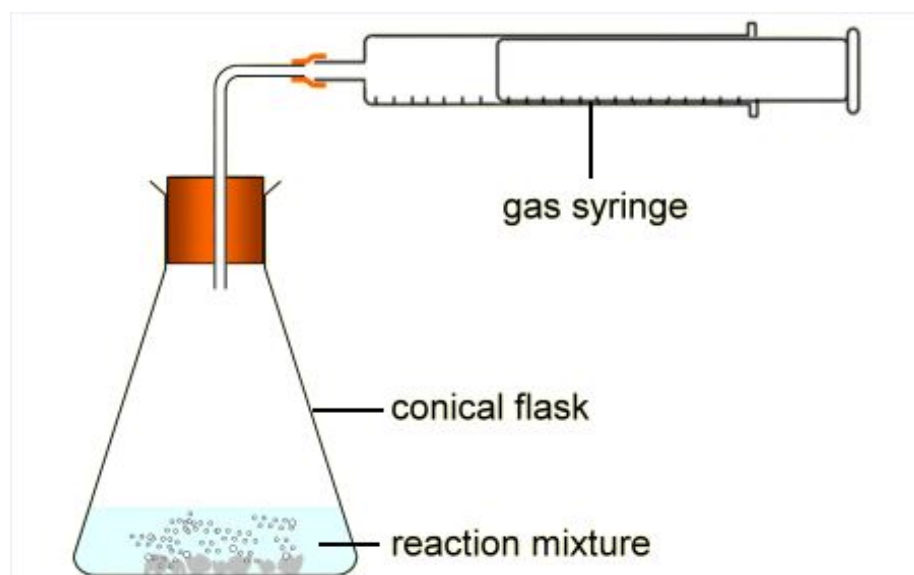

Figure 2.10: Gas Syringe Equipment
- Figure 2.10 - Gas Syringe Experiment - [http://www.bbc.co.uk/schools/gcsebitesize/science/add\\_ocr\\_gateway/chemical\\_economics/reaction1rev1.shtml](http://www.bbc.co.uk/schools/gcsebitesize/science/add_ocr_gateway/chemical_economics/reaction1rev1.shtml) - Accessed 14:20, 09/02/2015.